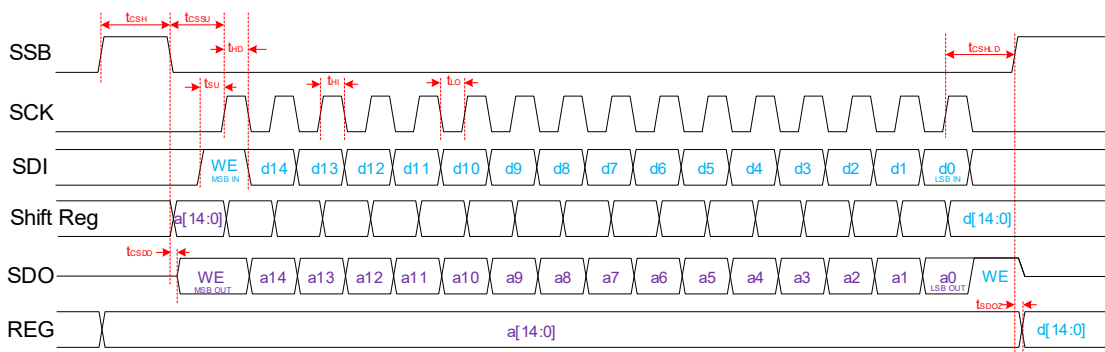
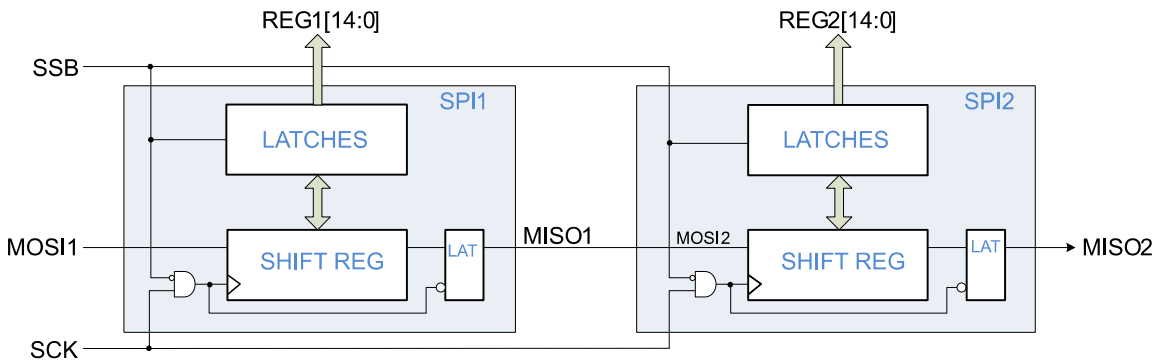
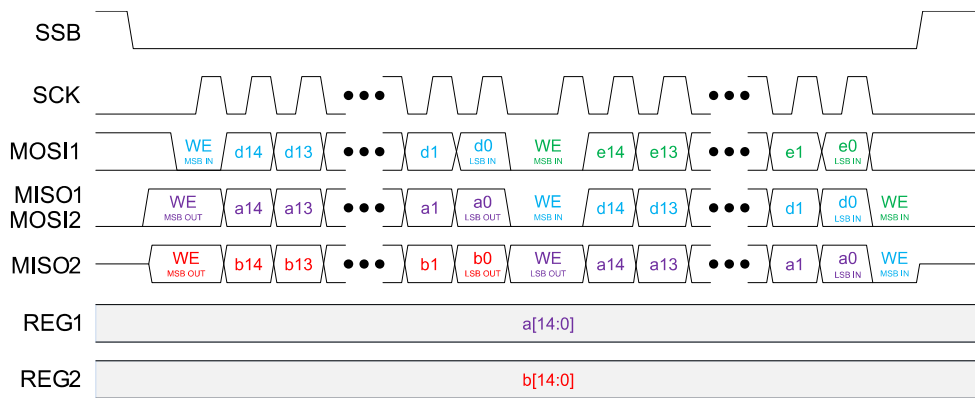
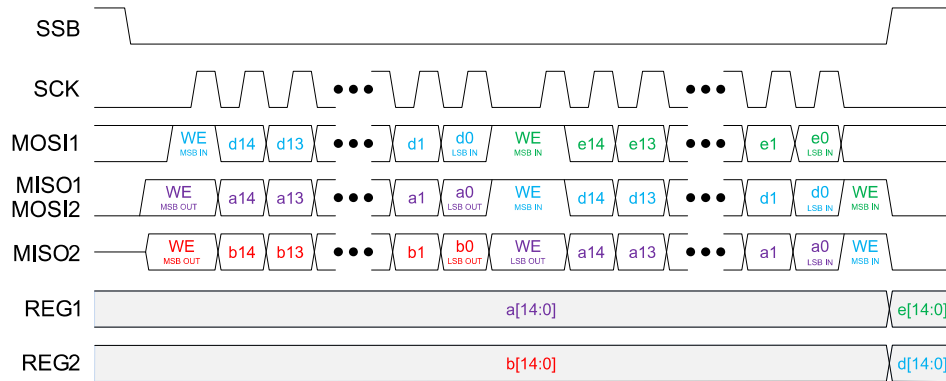

Figure 9. SPI Timing Diagram
Figure 12. SPI with 2 ICs Daisy-Chained
Figure 13. SPI Read Only (2 ICs Daisy-chained)
Figure 14. SPI Read & Write (2 ICs Daisy-Chained)
MODE = 0, activates the 16-Bit Serial Peripheral Interface (SPI) module for operation. Multiple devices can be daisy-chained to drive multiple ICs using one SPI bus (see Daisy Chain Operation, Figure 12., Figure 13, and Figure 14). The SPI works at any frequency up to a maximum of 33 MHz and may operate at significantly lower frequencies if the logic signals adhere to the data setup and hold requirements.
SPI timing diagrams are provided in Figure 9 through Figure 14. In SPI mode, data transmission starts when SSB goes Low, causing the Target to output the Most Significant Bit (MSB) of data to the SDO (MISO) pin. Data transfer from Host to Target takes place during the rising edge of the clock (SCK), which is idle when SSB is High. This mode of operation requires data for Host and Target to be present on SDI (MOSI) before the rising edge of the clock (defining SDI to SCK setup time). Data is pushed out of the SDO (MISO) pin during the falling edge of the clock. After the first 16-bit transaction, Host writes the latest data (DN) to Target, while Target passes its previous (DN-1) stored data to the Host. Data is latched into the internal registers at the rising edge of SSB, if WR\_EN = 1.
Daisy chaining the ICs is permitted and involves connecting the MISO of one chip to the MOSI of the next chip in the chain, as shown in Figure 12. SPI timing diagrams with daisy-chained devices are provided in Figure 13 and Figure 14.